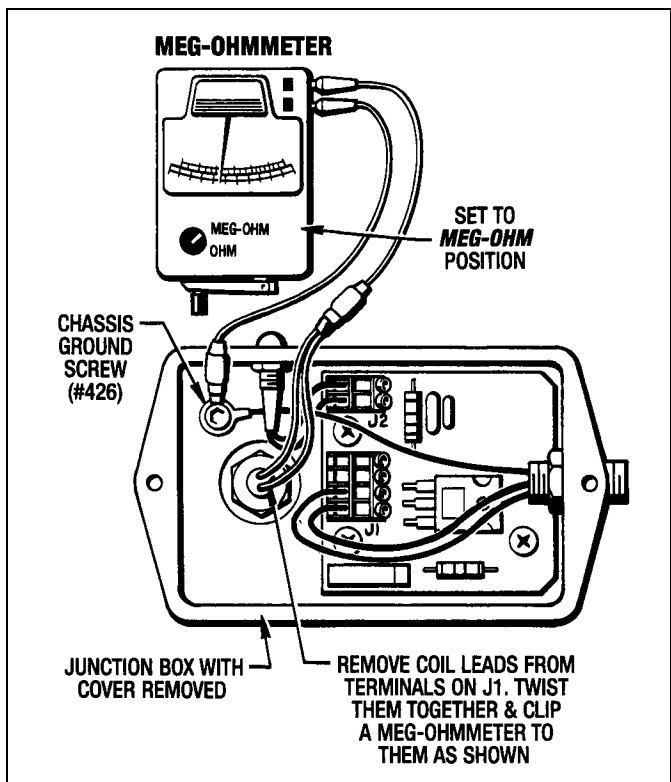

Figure 6.2- Coil Current Leakage Testing
Connect (1) alligator clip to both Coil Leads and the other one to Chassis Ground Screw (#426). (See *Figure 6.2*)